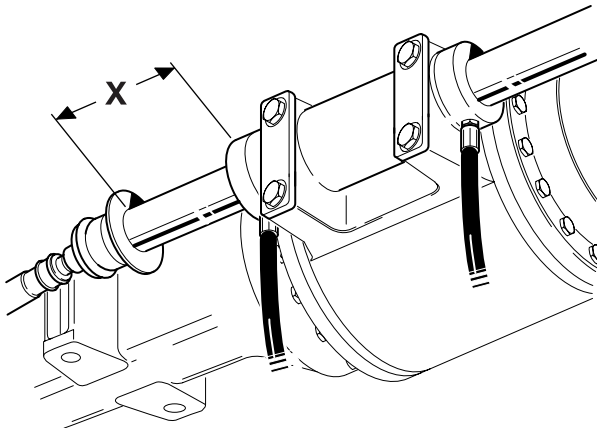

Fig 9.
- 1 Align the wheels in the straight ahead position. Check by measuring the steering ram position, as shown. Set the steering so that dimension **X** is 129 mm. ⇒ Fig 9. \(□ H2-16\)